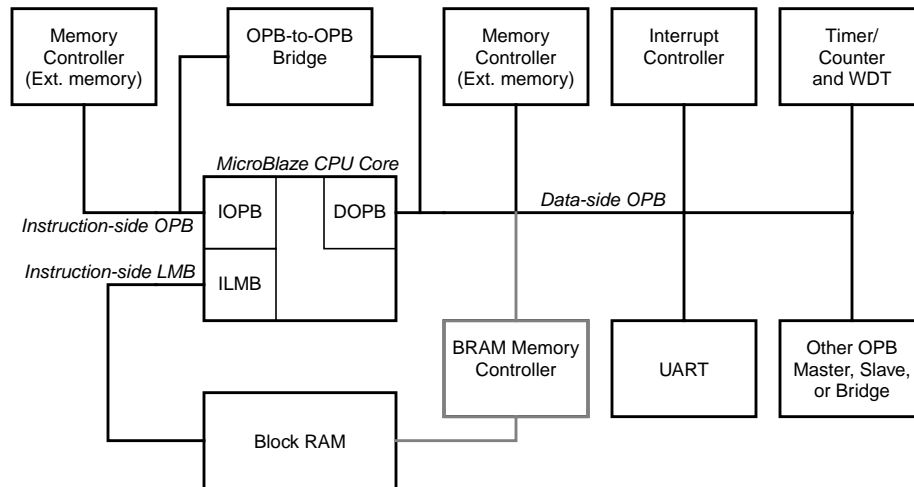
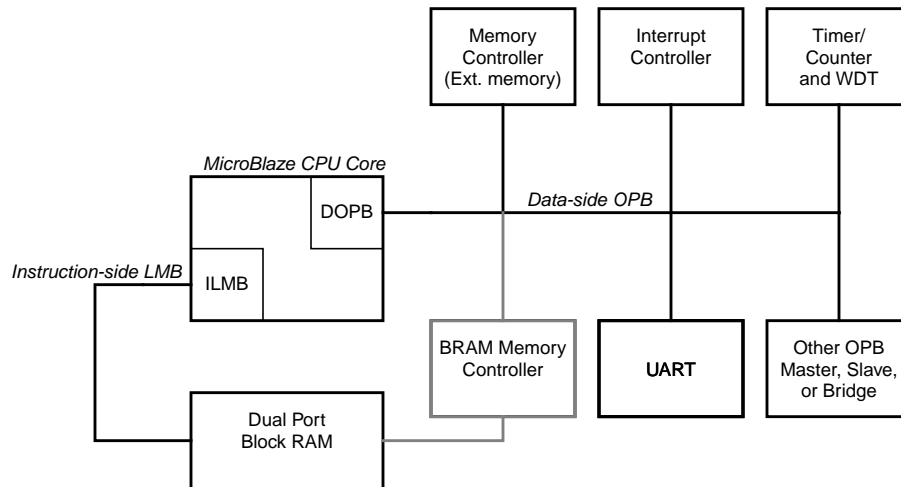

Figure 2-6: **Configuration 4: IOPB+ILMB+DOPB**
Figure 2-8: Configuration 6: ILMB+DOPB
**Note:** ILMB memory can be debugged via a software resident monitor if the second port of the dual-ported ILMB BRAM is connected to an OPB BRAM memory controller. See Figure 2-6 and Figure 2-8.